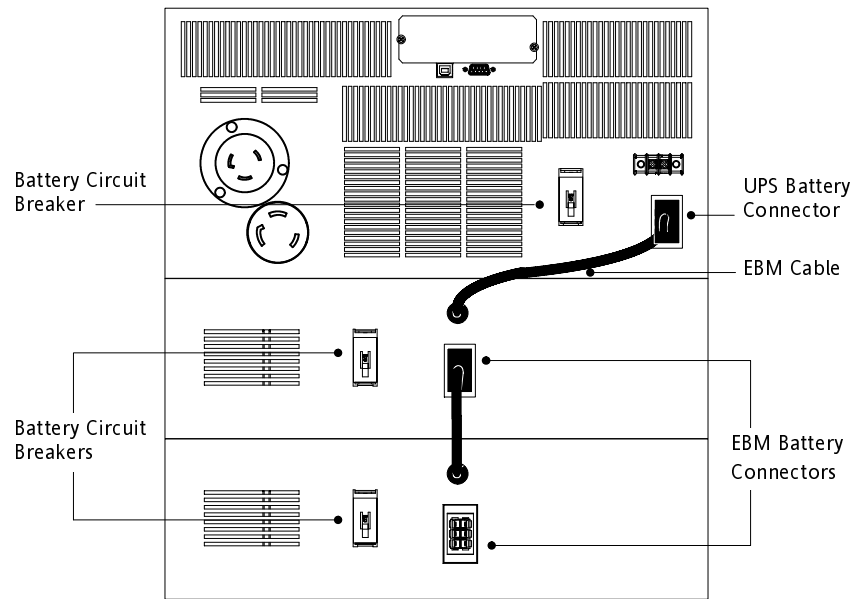

Figure 3. Typical EBM Installation
1. Verify that all battery circuit breakers are in the OFF (O) position (see Figure 3).